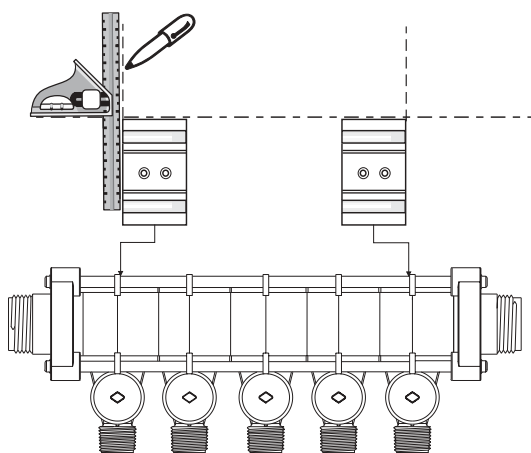

Fig. 1.
4. For proper bracket spacing, measure distance between the center ribs of the first and last PlumBloc module (see Fig. 1.) Mark this distance on the selected mounting surface, then align the outside edge of each bracket with each end mark.